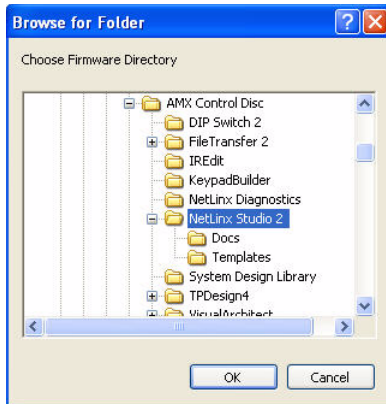

FIG. 103 Browse for Folder window
8. Select the appropriate Kit file from within the Browse for Folder window (FIG. 103).